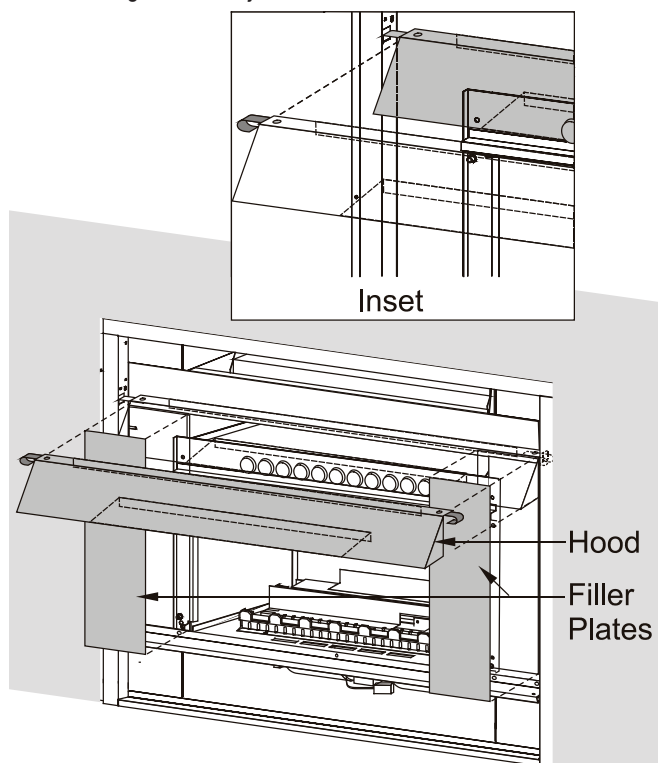

Figure 22. *Installing the hood and filler plates.*
13. Install the filler plates first and then the hood as shown in Figure 22. Loosen the two adjustment screws on the mounting brackets. Hook the bottom of the hood of the top edge of the Insert and slide the mounting brackets into the holes on each side of the shell. Re-tighten the adjustment screws.